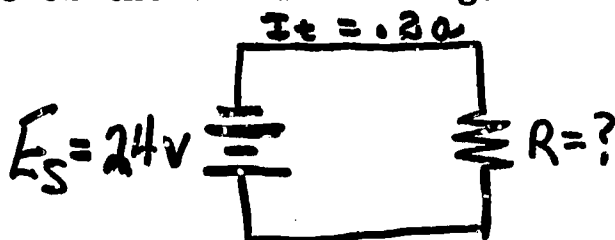

Fig. 5
*What is the resistance of the circuit in Fig. 5?